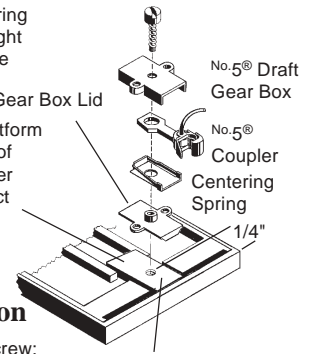

Fig.1
2. Use screws (metric) that come with model to secure No.5® Coupler assembly . Usually there are two screws for each coupler assembly, one for each side mounting lug. If screws are missing or you wish to convert to a single 2-56 screw, drill and tap a 2-56 hole 1/4" from edge of model on centerline. Use a 2-56 screw of appropriate length to secure No.5® Coupler. See Fig.1.